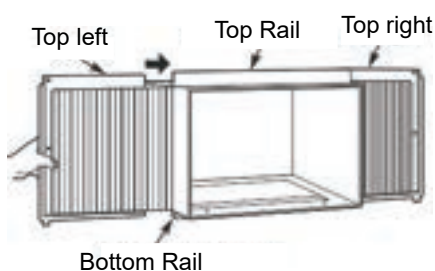

Fig.4
D. Slide the panel all the way in and repeat on the other side. Fig.4.